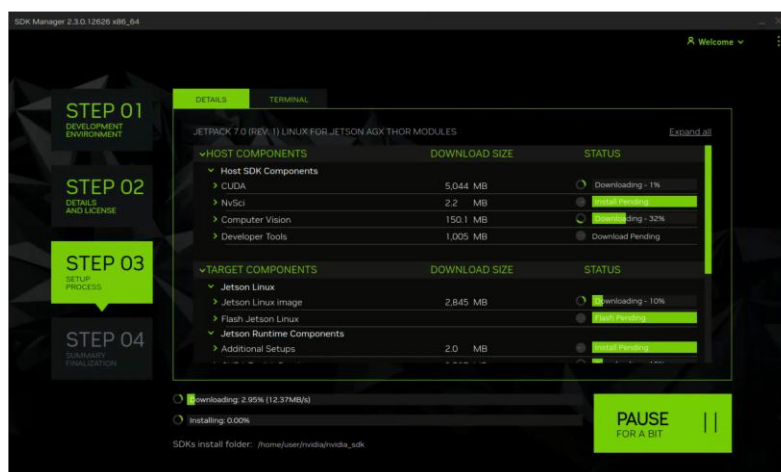

Figure 6.19. STEP 03 – Setup Process
- In the STEP 03 panel, the **SDK Manager** will prompt for a sudo password. Enter the password and click **OK**. The software download and installation process begins. The progress is shown in Figure 6.19.